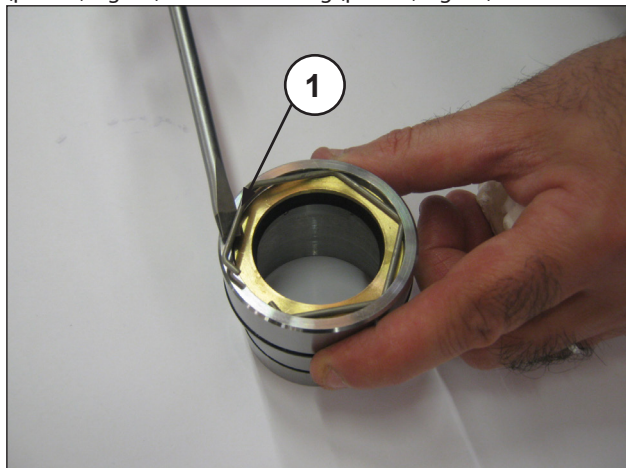
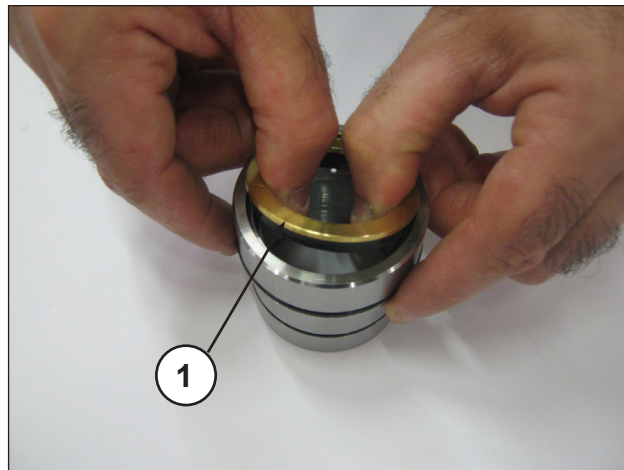

Fig. 27
Fig. 28
To remove the low pressure seal, remove the retaining ring (pos. ①, Fig. 27) and the seal ring (pos. ①, Fig. 28).